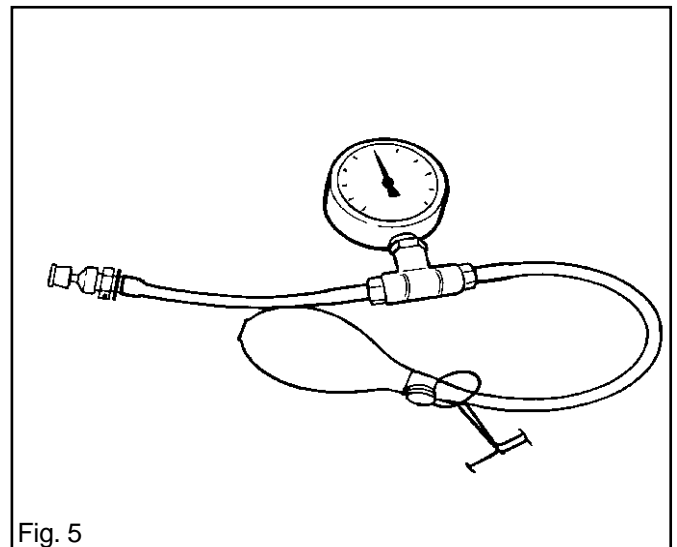

Fig. 5
- Pressure test the decompression valve as follows. See also fig. 5.